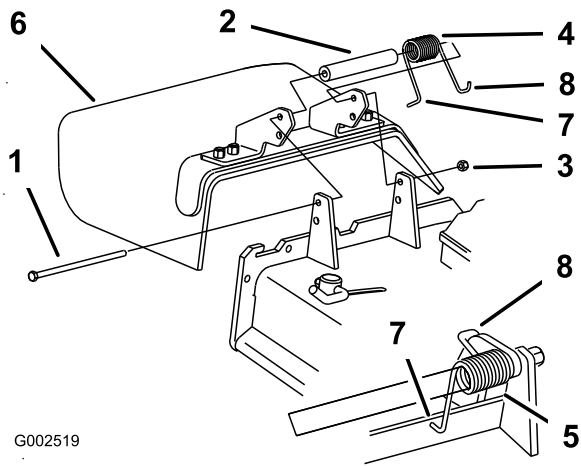

Figure 80
1. Remove the locknut, bolt, spring and spacer holding the deflector to the pivot brackets (Figure 80).
Note: Make sure the **L** end of the spring is installed behind the deck edge before installing the bolt as shown in Figure 80
5. Place the **J** hook end of the spring around the grass deflector (Figure 80).